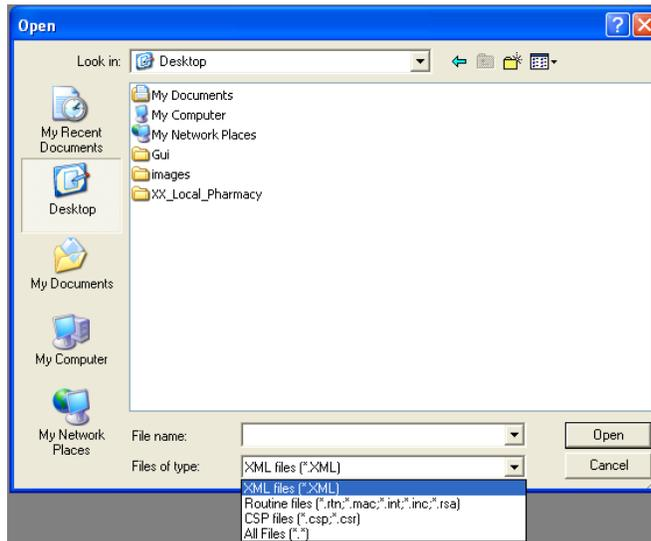

Figure 3-9: **Open** dialog showing navigation to Import file
4. The **Open** dialog displays as shown in Figure 3-9: